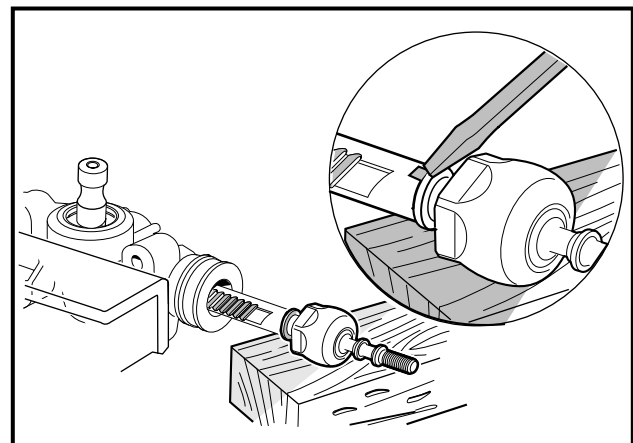

Figure 7-24 Install Ball Joint
14. Tap a flange into the notch on the rack (**Figure 7-24, Page 7-12**).